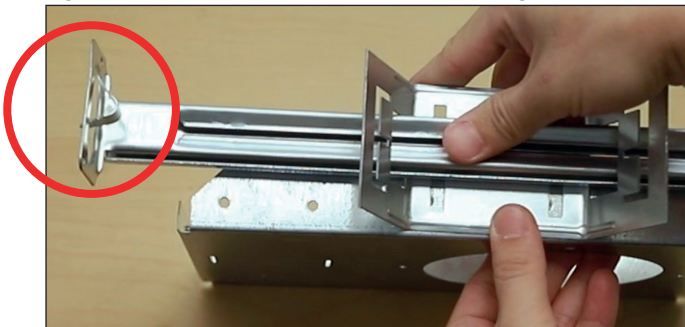

Fig. 4
- Secure hanger bars to Non-Electrical New construction housing by first ensuring the hanger bar securement tabs are oriented towards the bottom of the Non-Electrical New construction housing. [Fig. 4]